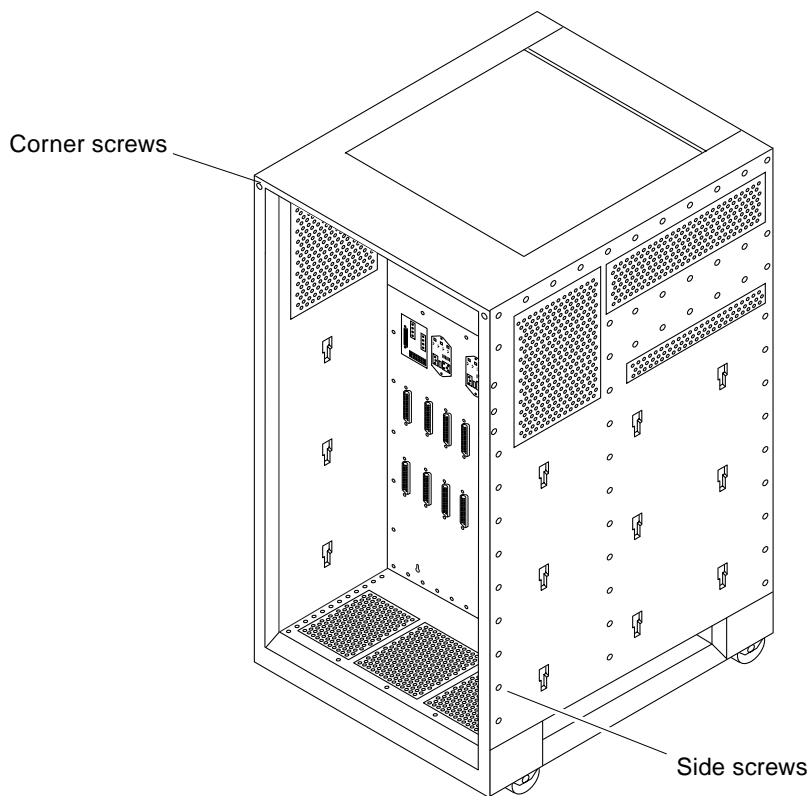

FIGURE E-11 Enterprise 3500 System Without the Front Chassis
4. Remove the 15 screws on each side that secure the front chassis to the main chassis (FIGURE E-11).
5. Remove the two screws on the top front corners that secure the front chassis to the main chassis (FIGURE E-11).
3. Replace the two screws on the top front corners that secure the front chassis to the main chassis (FIGURE E-11).
4. Replace the 15 screws on each side that secure the front chassis to the main chassis (FIGURE E-11).